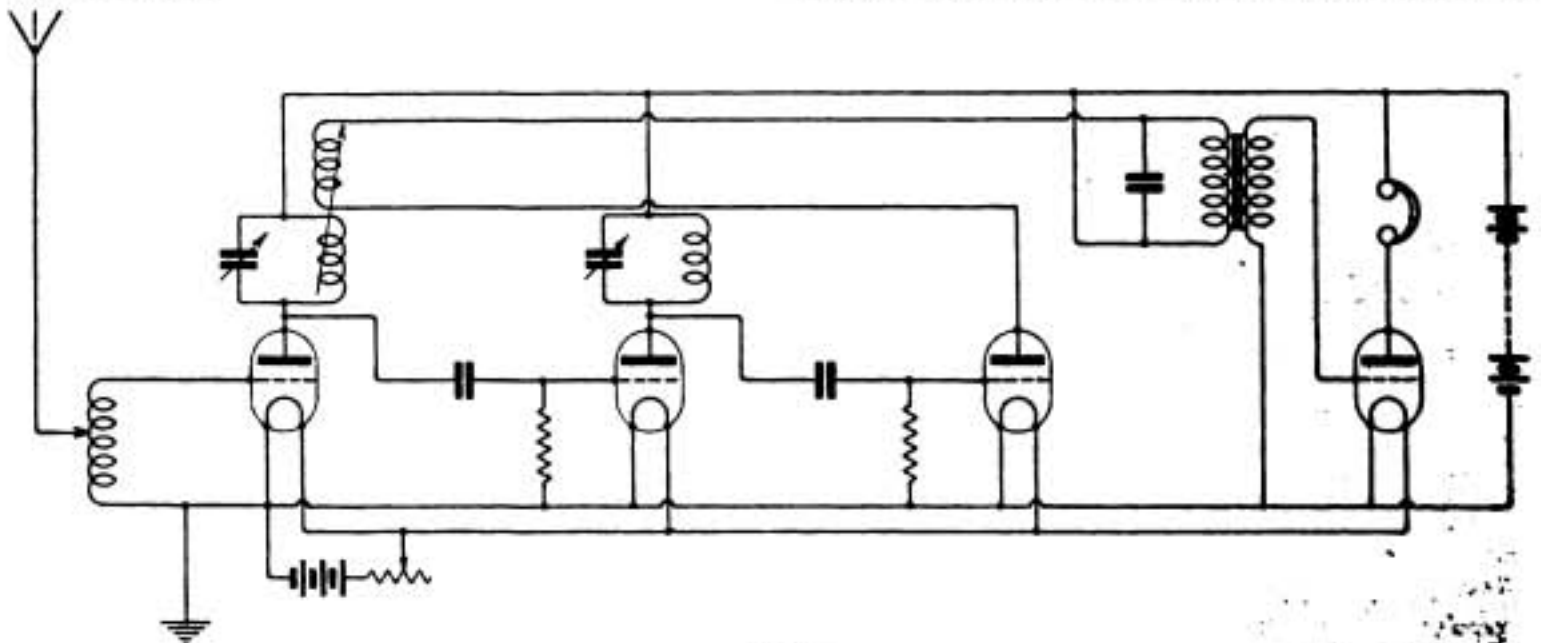

Fig. 4.
(1) Various values between 350 and 425 metres. (2) See diagram (Fig. 4). The loud speaker and various numbers of telephones may be introduced as desired in a position in which a pair of telephones is shown. (3) 100 ft.